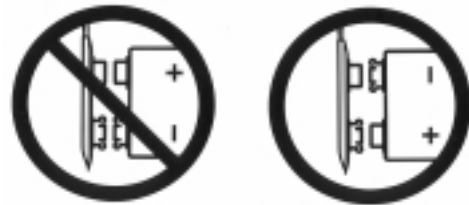

Figure 15 Smartap® Battery Connections
24. Disconnect battery. The battery connection is a snap type connector (Figure 15).
27. **CAUTION:** Verify battery connector alignment before making connection (Figure 15).